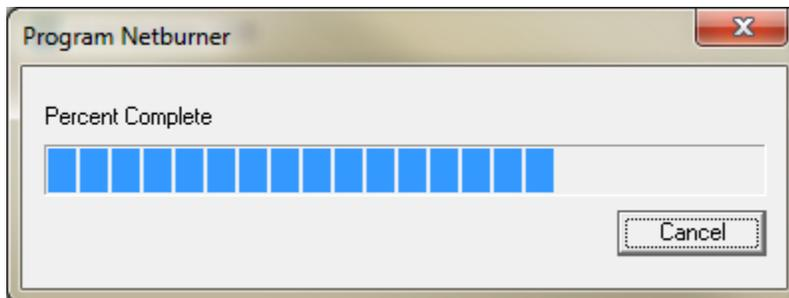

Figure 19 Programming Screen
6. To upload the new firmware, click the Update button and Figure 19 will be displayed for a few seconds.